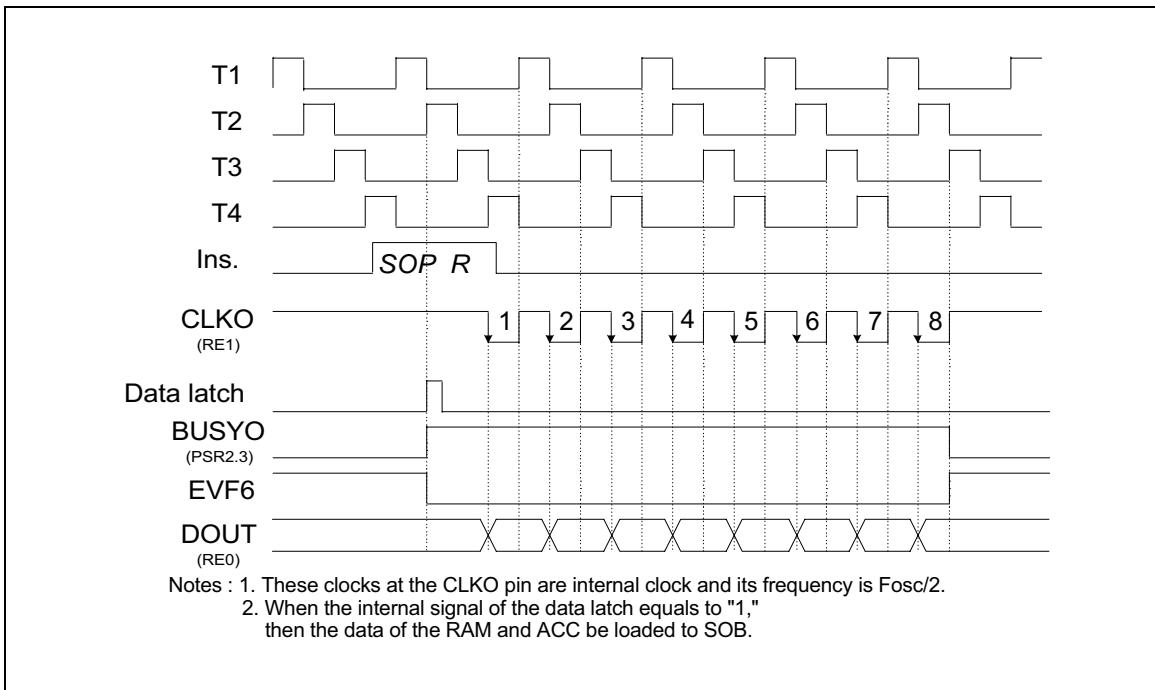

Figure 12. Timing of the Serial Output Function (SOP R)
(2) When the SOP R instruction is executed, the data will be loaded to the serial output buffer (SOB) and bit 3 of port status register 2 will be set to "1" (BUSY_O = 1). Then the CLKO pin will send out 8 clocks and the data in SOB will be sent out at the falling edge of the CLKO pin. After the 8 clocks have been sent, BUSY_O will be reset to "0" and EVF.6 will be set to "1." At this time, if IEF.6 has been set (IEF.6 = 1), an interrupt is executed; if HEF.6 has been set (HEF.6 = 1), the hold state is terminated. Users can check the status of PSR2.3 (BUSY_O) to know whether the serial output process is completed or not. If a serial output process is not completed, and the SOP R instruction is executed again, the data will be lost. The timing is shown in Figure 12.